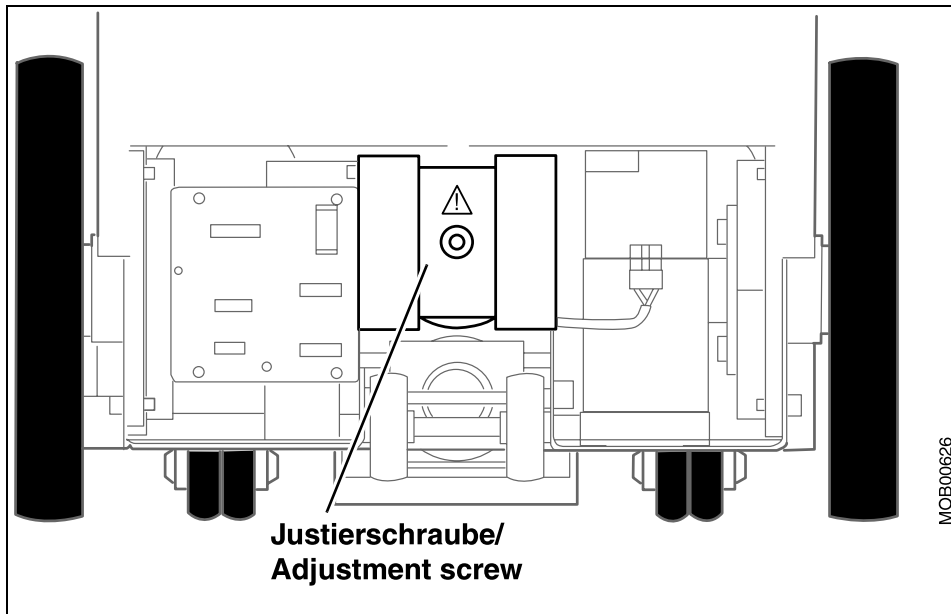

Fig. 54: Adjusting the counterweight
- Neutralize the spring tension of the counterweight by loosening the adjusting screw (Fig. 54 / p. 64).
- Initially set the counterweight of the support arm via the adjusting screw (Fig. 54 / p. 64) so that the single tank is balanced.
- Set the counterweight of the support arm via the adjusting screw (Fig. 54 / p. 64) so that the single tank is always balanced.